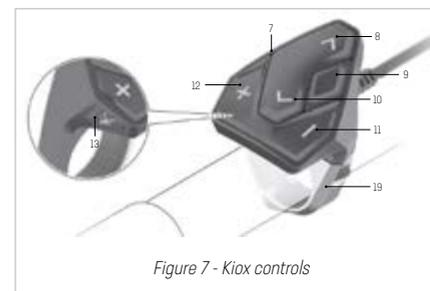

Figure 7 - Kiox controls
By pressing the buttons (10) and (8) (see Figure 7), the various screens including information on trip values can be accessed, even during the trip. This allows to keep both hands on the handlebar while riding. The <Settings> accessible via the status screen cannot be changed while riding. By pressing the selection button (9), the following functions can be performed:
For E-OMNIA X-Type and FX-Type models, press the WALK button on the trip computer briefly to activate the push aid. For E-OMNIA T-Type (man e lady), C-Type, FT-Type models, press the button (13) in Figure 7 on the trip computer briefly to activate the push aid. Once the function is enabled, press the + button within 3 seconds and hold it. The eBike motor will be enabled. In the OFF level of assistance, the push aid cannot be enabled. Push aid will be disabled when one of the following events occurs: release of the + button, locking of the wheels of the bicycle (for example, when braking or due to impact against an obstacle) or speed above 6 km/h (3.7 mph for the US version).